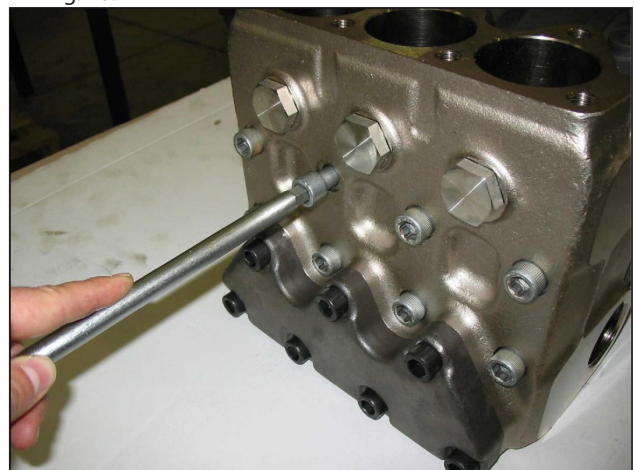

Fig. 20
- A) Unscrew the M12x150 head fixing screws as indicated in Fig. 20.